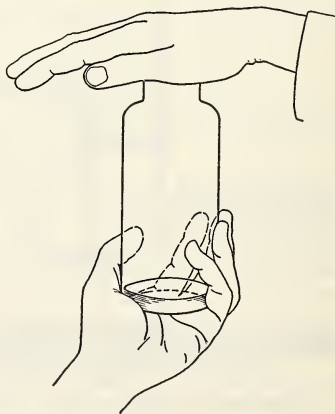

Fig. 58. Testing the solubility of a gas.
4. Add 10 ml. of water to a bottle of carbon dioxide. Cover the mouth of the bottle with the palm of your hand, and shake vigorously (Fig. 58). Add another 10 ml. of water, and repeat the procedure.